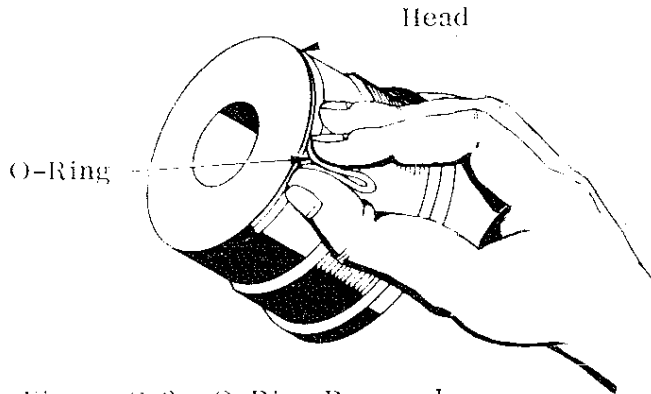

Figure G-3. O-Ring Removal
- 10 Work a slack section into the head seal static o-ring (No. 6) and pick it up out of the groove (Figure G-3). Lift the static back-up out of its groove with the needle-nose pliers.